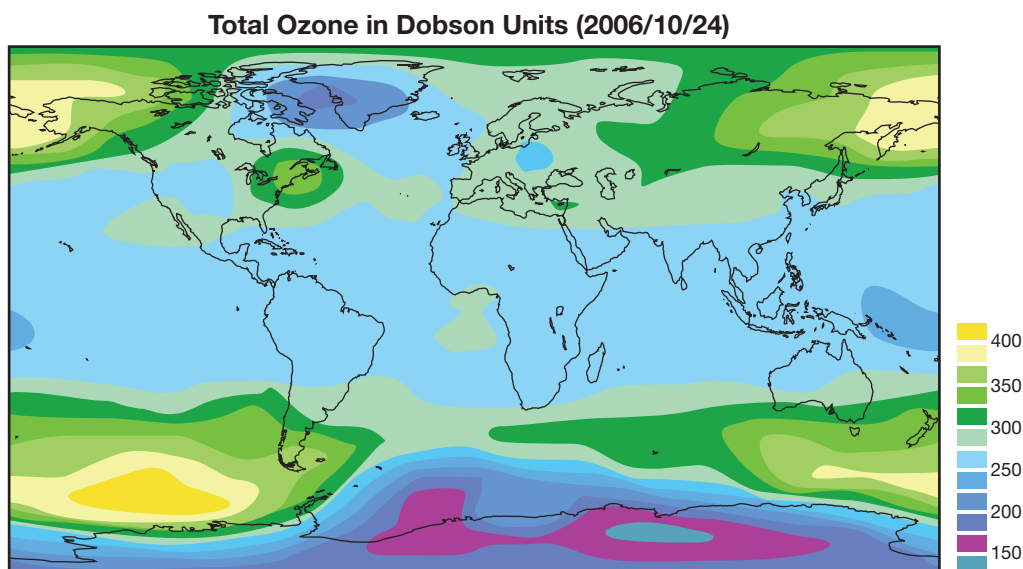

Figure B2.12
The ozone layer over Earth varies in thickness. The thickness of the ozone layer is measured in Dobson units (DU). One Dobson unit is equivalent to a thickness of 0.01 mm of ozone gas at a standard temperature and pressure (0 °C and 100 kPa). As you can see in Figure B2.12, some regions have significantly higher levels of ozone. Areas with low levels of ozone are called ozone holes.
- In Figure B2.12, determine the locations where the thickness of the ozone layer is the lowest.